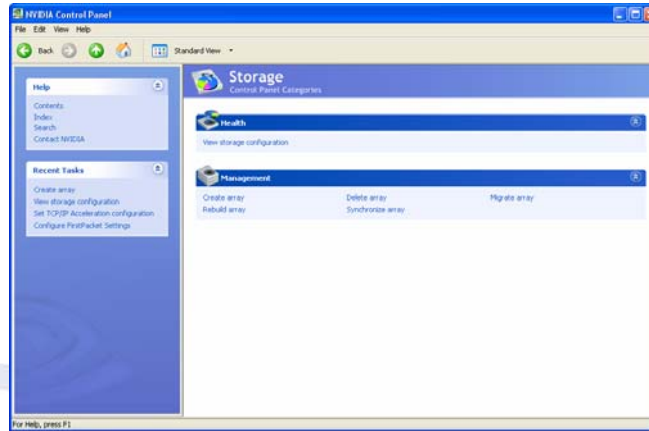

Figure 7. Viewing RAID Arrays
1. Under **Health**, select **View storage configuration**, as shown in Figure 7.